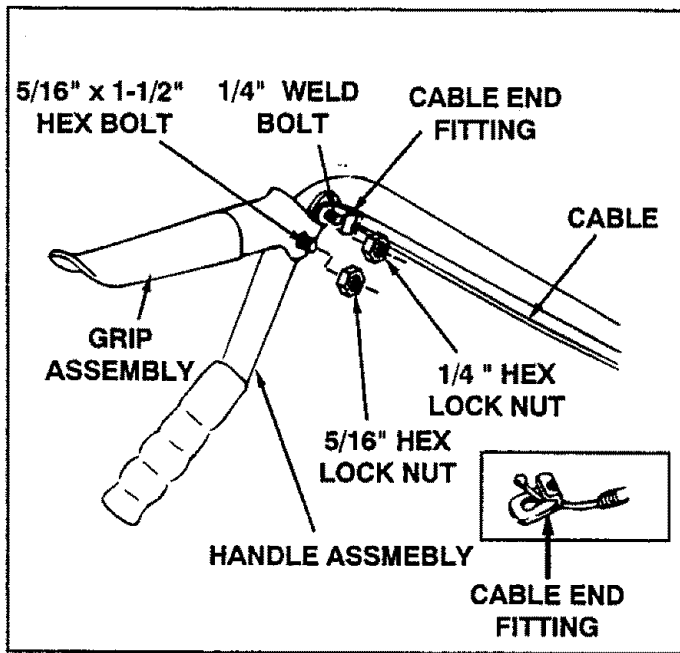

FIGURE 28
- Assemble grip assembly to handle assembly using one 5/16" x 1-1/2" hex bolt and one 5/16" hex lock nut. See figure 28.
- Assemble ball end of cable through round hole in cable end fitting and into slot of fitting. (as was done in figure 26). Secure cable end fitting to handle assembly with 1/4" hex lock nut. See figure 28.